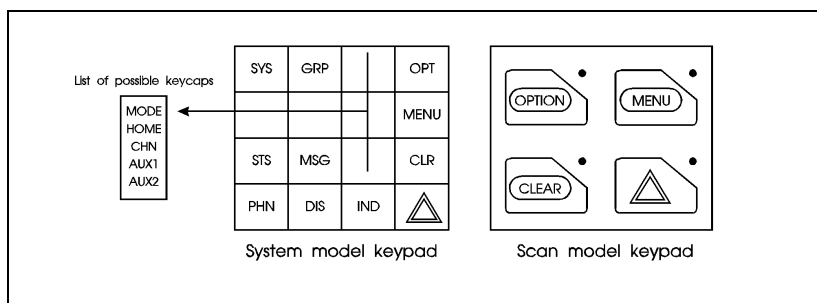

Figure 5 - Standard ORION Keycaps Configuration
The Standard keycap package for the System radio includes five (5) labeled keycaps (MODE, HOME, CHN, AUX1 and AUX2) and six (6) blank keycaps, which can be placed on any of the five key locations (numbers 3-6 and 9) shown in Figure 5. The keycap represents the primary function programmed for that key location. See the **Key Description** section for a description of the primary function associated with these five (5) keycaps.